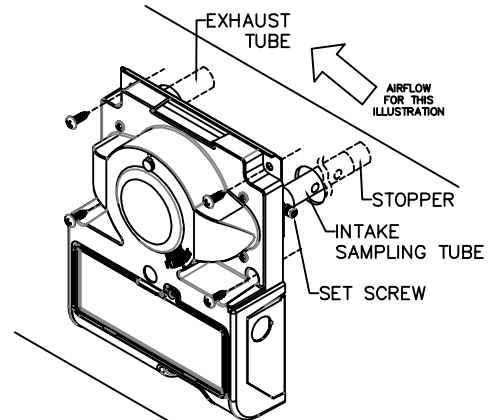

FIGURE 2. FCD-350 MOUNTING
The Duct Detectors are designed for use in ducts where the air velocities are from 1,000 to 4,000 feet per minute. See Figure 2 for sampling tube orientation to air flow direction.
C. SAMPLING TUBE ASSEMBLY (See Figure 2)
The sampling tubes may be ordered to a desired length or ordered in one of 3 standard lengths and cut per requirements. The intake sampling tube consists of a piece of steel piping with a series of holes drilled the entire length of the tube and should extend the entire width of the duct. The holes must be facing into the air flow (see Figure 2). The exhaust tube consists of a piece of steel piping approximately 7-1/2" long.
D. MOUNT SAMPLING TUBES (See Figure 2)
1. Sampling tube connectors are equipped with set screws, which allow the tubes to be mounted only in directions shown in Figure 2. Establish proper orientation considering airflow direction.